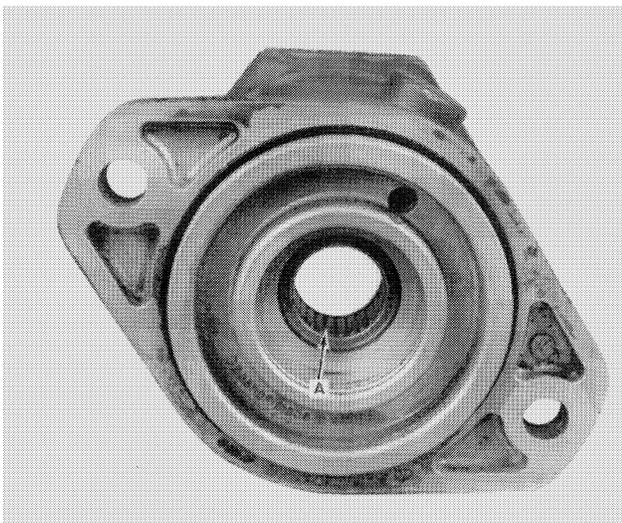

FIGURE 14
12. Remove the needle bearings, D, Figure 9, and A, Figure 14, if they show wear or excessive play.